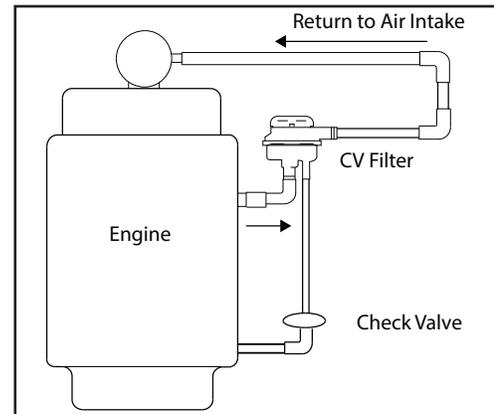

Figure 5: Diagram of a CCV system assembly - Arrows show flow direction.
1. Ensure that the CV unit is assembled, and the twist caps are tightly secure. If it is not assembled, use figure 5 to assemble it by starting with the bottom cap and place each following part, tightening each cover to the housing. Tighten the bolts securely to ensure that the CV unit remains in place.